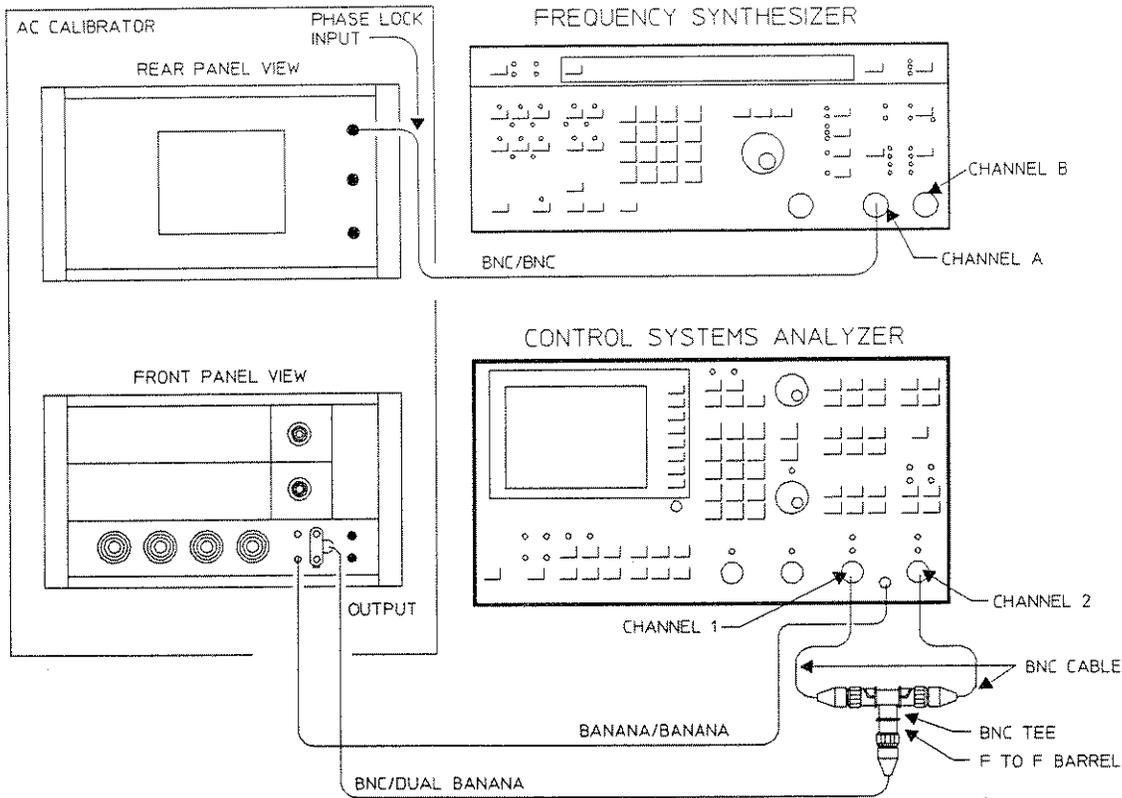

Figure 4-5. Amplitude Accuracy and Flatness Test Setup
1. Connect the test instruments as shown in Figure 4-5.